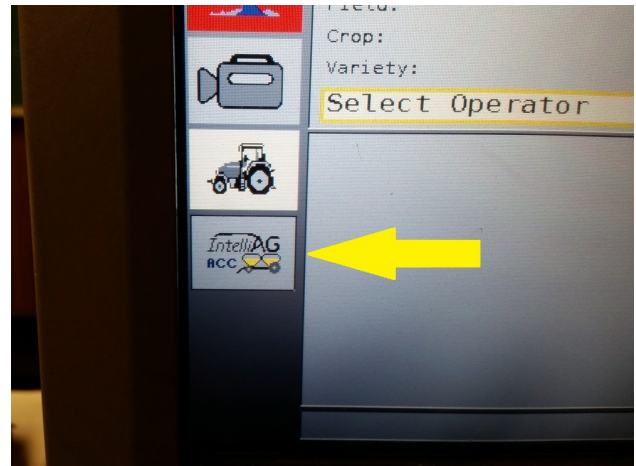

Figure 4
Step 6. Once data has uploaded, locate DICKY-john ACC icon and select. (Figure 4)